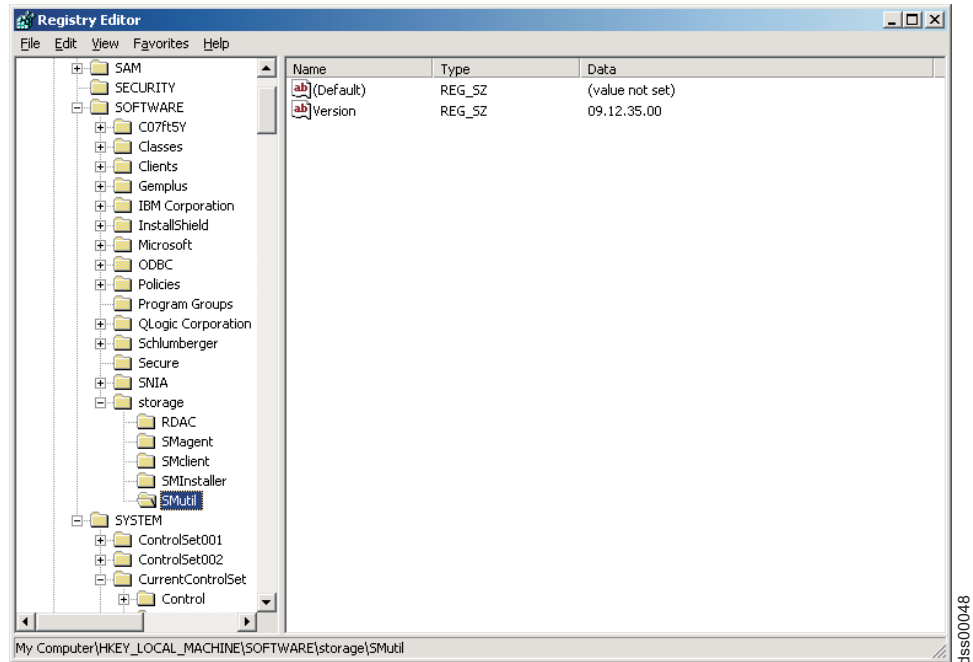

Figure 13. Registry Editor window
3. For each package that you installed, there would be a folder under the \HKEY_LOCAL_MACHINE\SOFTWARE\Storage or \HKEY_LOCAL_MACHINE\SOFTWARE\WOW6432Node\Storage key. Click on that folder name and look for the Version data field in the right window pane. The Version data field will have the correct version of the host software package that you installed. Record these versions for future reference. For example, Figure 13 on page 69 shows that all four host-software packages were installed in this server and the version of the SMUtil package is 09.12.35.00.